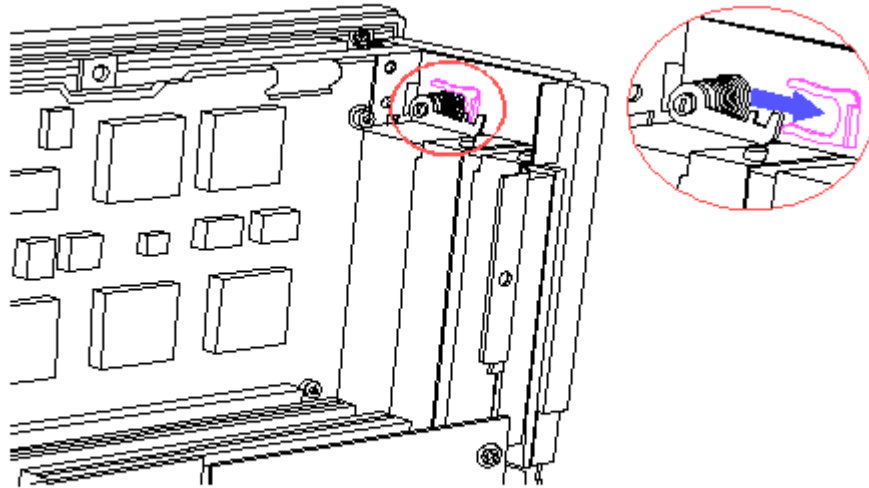

Figure 5-28. Removing the Metal Clip
3. Using a flathead screwdriver, remove the metal clip securing the keylock (Figure 5-28).
4. Pull the keylock out of the computer (Figure 5-28).